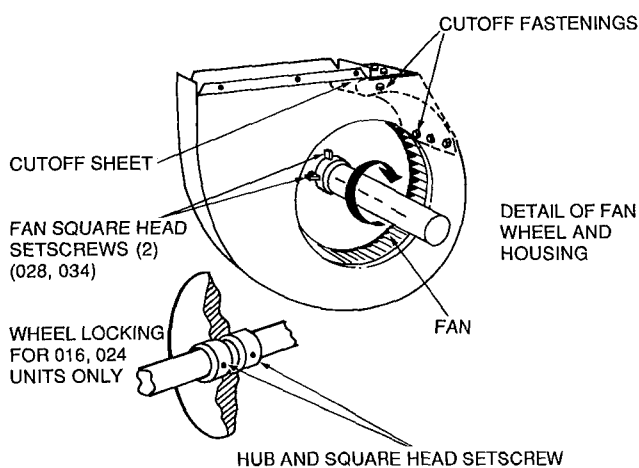

Fig. 3 - Fan Locking Detail
- a. Loosen fan wheel square head setscrews on each side of fan support (Fig. 3).